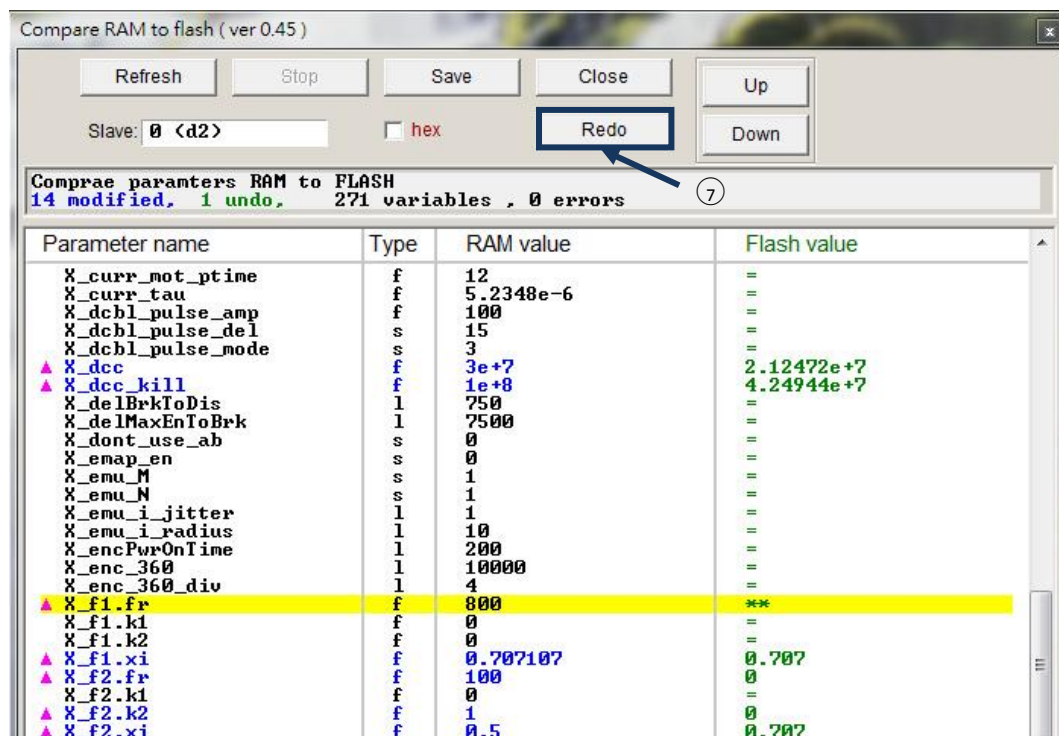

Figure11.1.3
- (1) =: The parameter in Flash is the same as that in RAM.
- (2) **: The parameter has performed the "Undo" action and the value in RAM has been changed to that in Flash, as shown in figure 11.1.3.